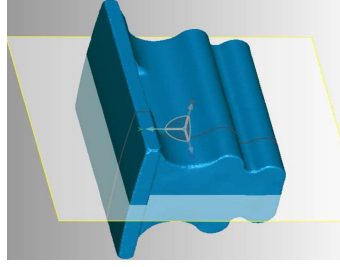

Figure 118
- In the **Align Plane** roll-up group set the **Position** value to **0.0 mm**, press **Enter** to update the section plane position in the **Graphics Window**, see **Figure 118**.